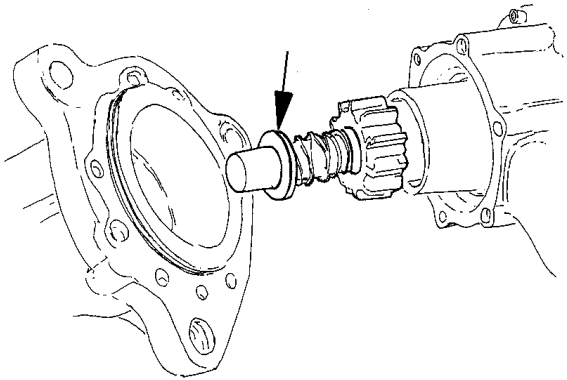

Figure 2 Verify Washer is on the Shaft (Arrow)
5. Remove the nose cone Housing. Verify the washer is still on the shaft (Figure 2).